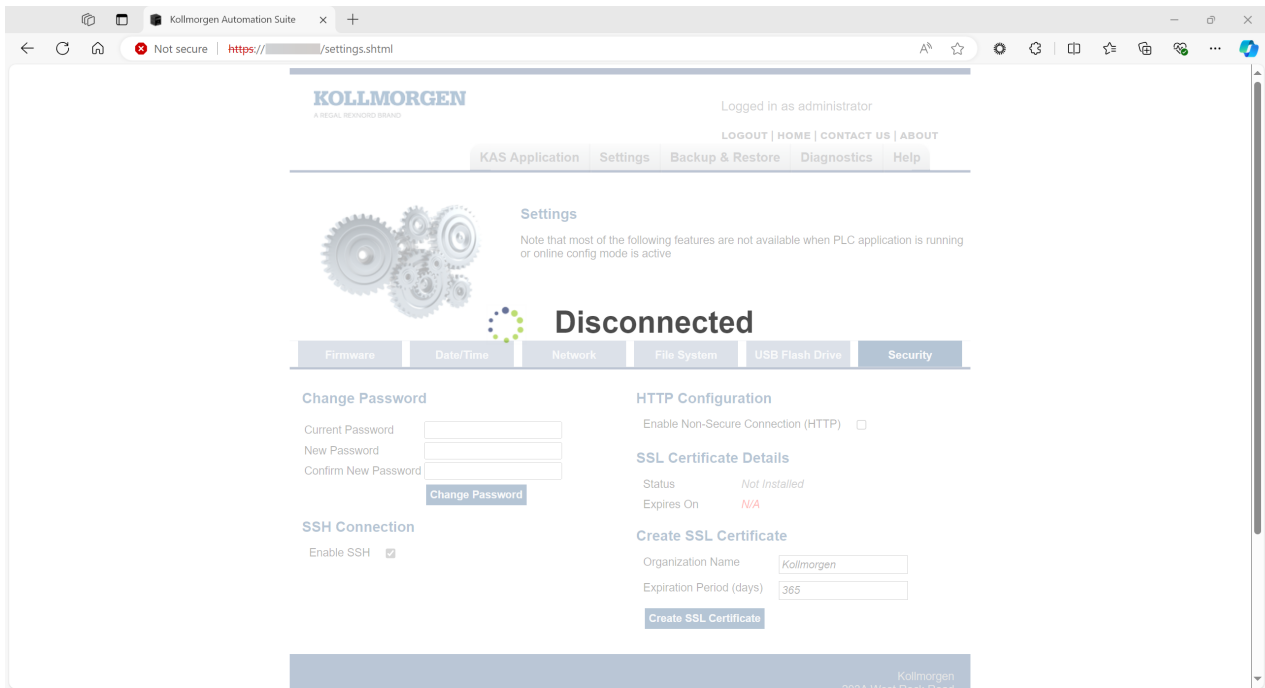

Figure 9-23: Disconnected message
- Wait for the **Disconnected** message to appear. (Figure 9-23)